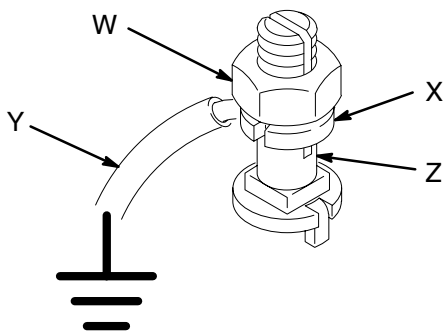

Fig. 1
1. *Pump:* use a ground wire and clamp. See Fig. 1. Loosen the grounding lug locknut (W) and washer (X). Insert one end of a 1.5 mm² (12 ga) minimum ground wire (Y) into the slot in lug (Z) and tighten the locknut securely. Connect the other end of the wire to a true earth ground. Order Part No. 237569 Ground Wire and Clamp.